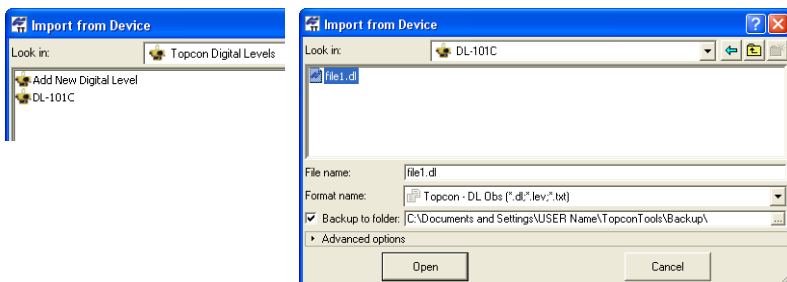

Figure 3-48. Import From Topcon Digital Level
6. On the *Import from Device* dialog box, select the “file1.dl” and the format type (Figure 3-48).
The new point(s) contained in the digital level’s file will display in the *Points* and *DL Obs* tabs after successful import of the file into the current Topcon Tools job. A “file.dl” file will be saved in the folder defined in the *Backup to Folder* field of the *Import From Device* (Figure 3-48).